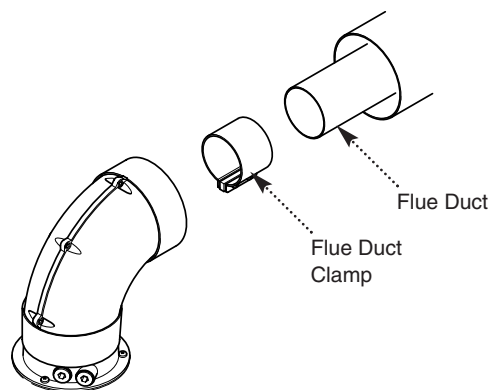

Fig. 24
11. Locate the flue duct clamp on the flue outlet elbow. Draw the flue duct out of the air duct, engage it in the clamp and tighten the screws (Fig. 24).